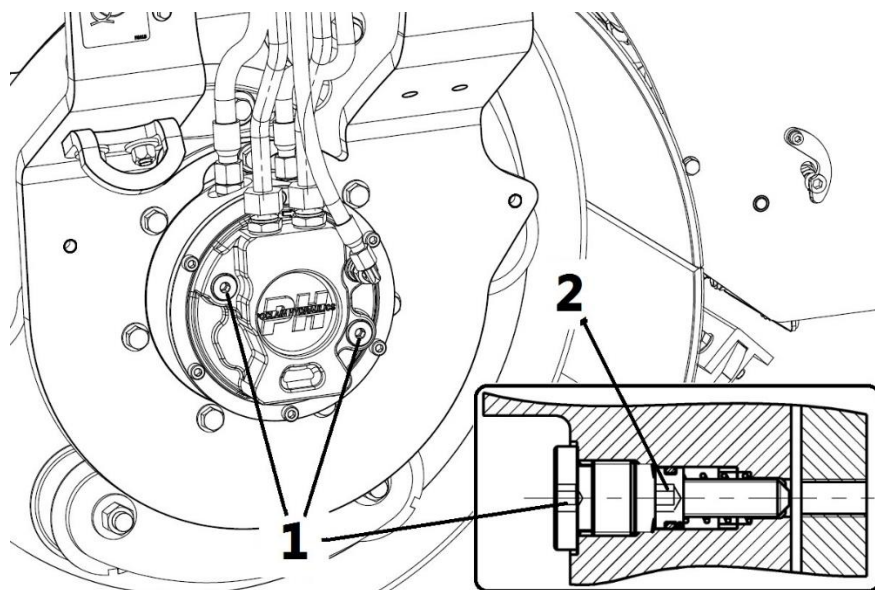

Fig. 6-10: Manual Releasing of Parking Brake
2. Remove two plugs (front and rear, see 1 in Fig. 6-10) at the outside of motor;
3. Rotate the bolt (2 in Fig. 6-10) by using socket head wrench, and screw two bolts alternatively until tightening them.
4. Re-screw two plugs (see 1 in Fig. 6-10) at outside of motor with the tightening torque of 22N.m.
2. Use the socket head wrench to remove two plugs (front and rear) at outside of motor (see Fig. 6-10);